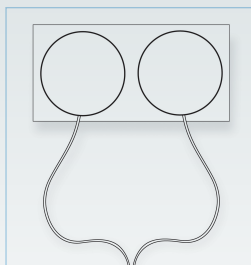

Figure 1
Electrodes are provided for patient use. Low profile Electrodes (Figure 1) are to be used in all applications of the OrthoPak. Electrodes are mounted on a release liner and are effective for multi day use. (See page 14.) A supply of electrodes is included with every assembly. The patient should replace electrodes every 1 to 7 days. Patients can order additional electrodes by calling 1-800-526-2579 and then dialing extension 6000.
1. Connect the two electrode wires into the electrode lead wire. Insert the electrode lead wire plug into the jack at the top of the stimulator controller (Figure 1). Choose the electrode lead wire that reaches from the location of the device or device holster to your fracture site (where your electrodes should be placed). The device holster can be worn on a belt, attached to your waistband, or clipped onto the extremity band.
2. Remove the fully charged battery pack from the battery charger cradle by a gentle lift (2) of the small tab (1). The battery is now ready for connection to the OrthoPak.
3. Insert the battery pack into the OrthoPak by placing it into the battery compartment (1) (replace the cover by sliding back to its closing position). The cover will snap into place (2).